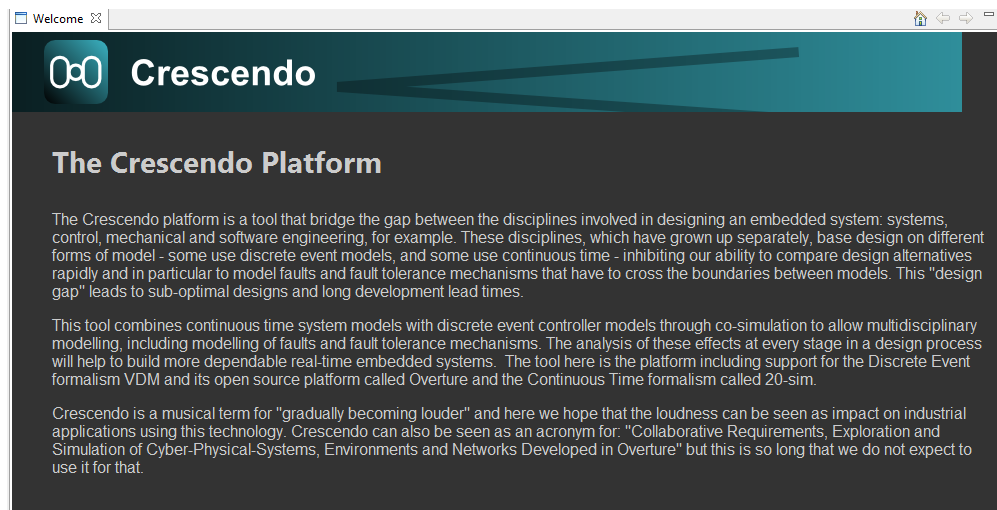

Figure 4.2: The Crescendo Welcome Screen.
- **Enter a location** where you have both read and write access. The program should respond by opening with a welcome screen as shown in Figure 4.2.